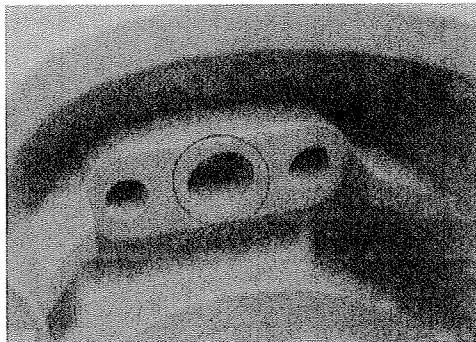

Figure 14: Positioning of Handle
2. On the smaller portion of the handle there is a little hole. This hole is used for positioning the handle to the post. Ensure the head of the positioning screw (which is located half way up the post) is inserted into this hole. Refer to Figure 14.